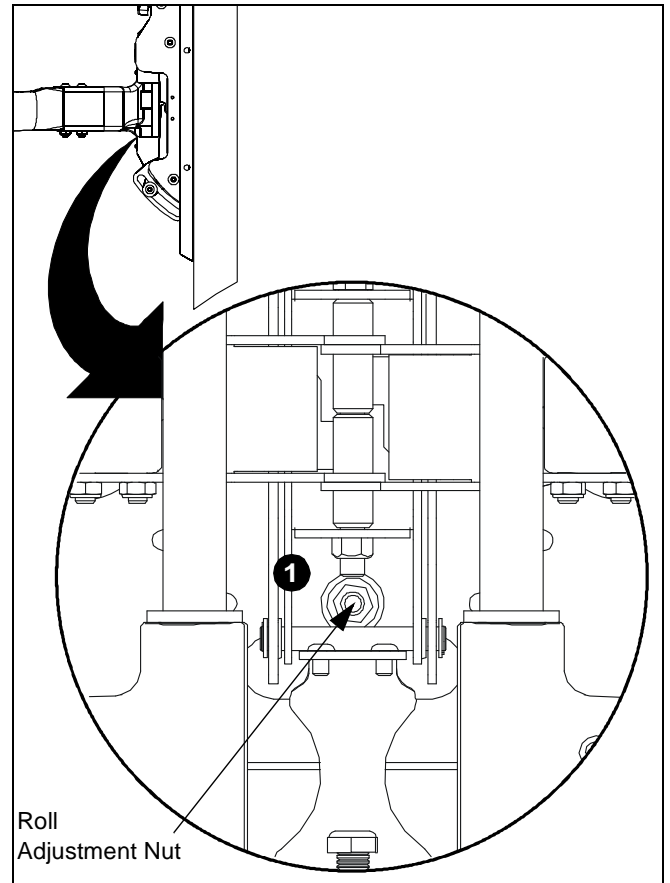

Figure 9
1. Using a 9/16" wrench (not provided), slightly tighten or loosen lateral Roll tension adjustment nut. (See Figure 9)